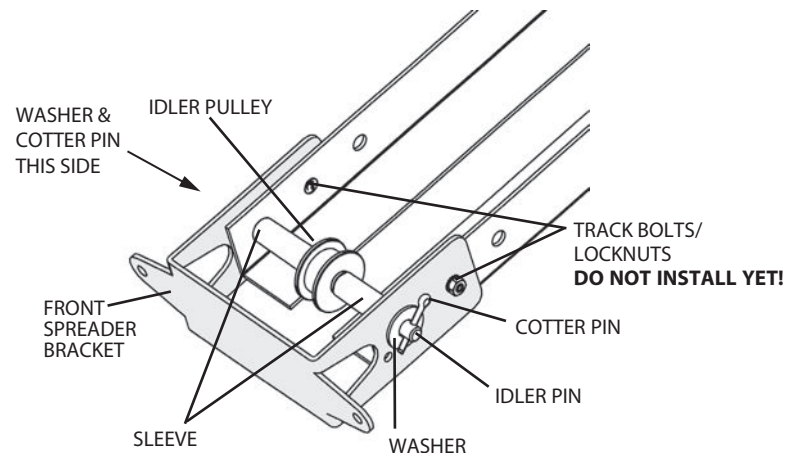

Figure 5
- 5) Install the idler pulley inside the track by inserting the 7/16" x 7" idler pin through one side of the track and as you feed it through an idler sleeve and the idler pulley followed by the second sleeve. Place fender washer (7/16" x 1-1/4") over each end of idler pin. Secure idler pin by inserting a cotter pin through the hole in each end of idler pin. **Fig. 5.**